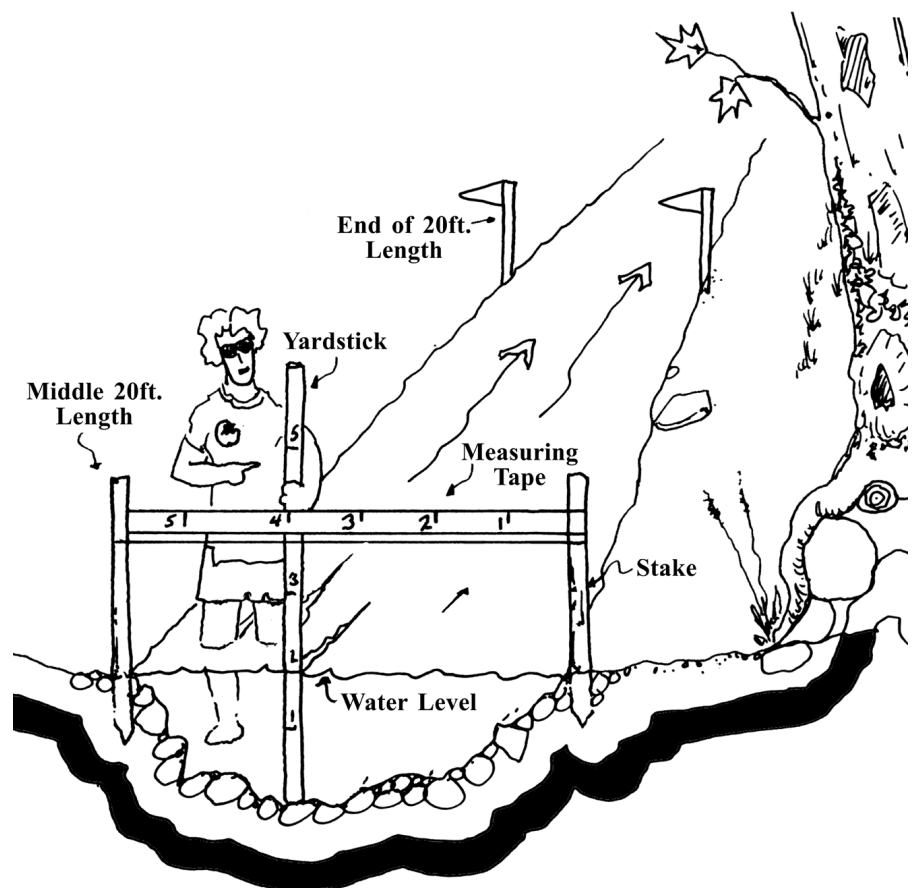

Figure 1. Credit: Chris Padick, Malibu Creek Stream Team
4. Secure the measuring tape to both shores so that the tape is taut and above the surface of the water. You might choose to attach the tape to two stakes secured on opposite banks to create a transect line across the stream if it is impractical to secure the tape using shoreline vegetation (Figure 1).